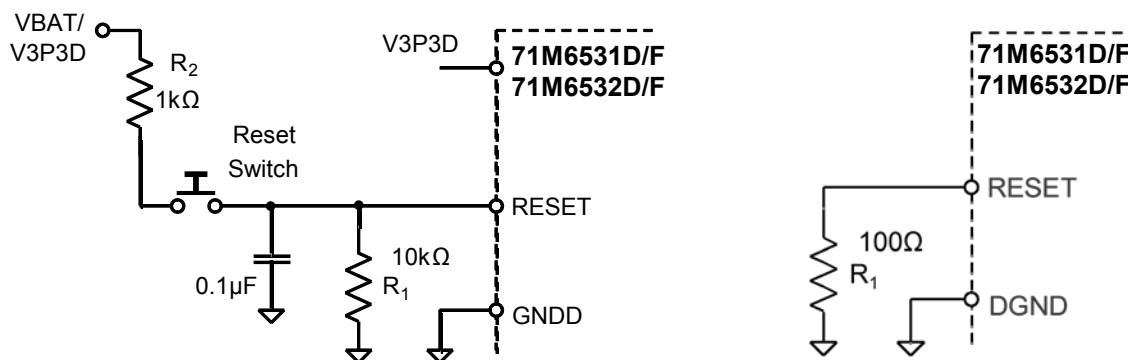

Figure 38: External Components for the RESET Pin: Push-button (Left), Production Circuit (Right)
Even though a functional meter will not necessarily need a reset switch, it is useful to have a reset push-button for prototyping as shown in Figure 38, left side. The RESET signal may be sourced from V3P3SYS (functional in MISSION mode only), V3P3D (MISSION and BROWNOUT modes), or VBAT (all modes, if a battery is present), or from a combination of these sources, depending on the application.
For a production meter, the RESET pin should be protected by the external components shown in Figure 38, right side. R1 should be in the range of 100  $\Omega$  and mounted as closely as possible to the IC.
- Since the 71M6531 generates its own power-on reset, a reset button or circuitry, as shown in Figure 38, is only required for test units and prototypes.